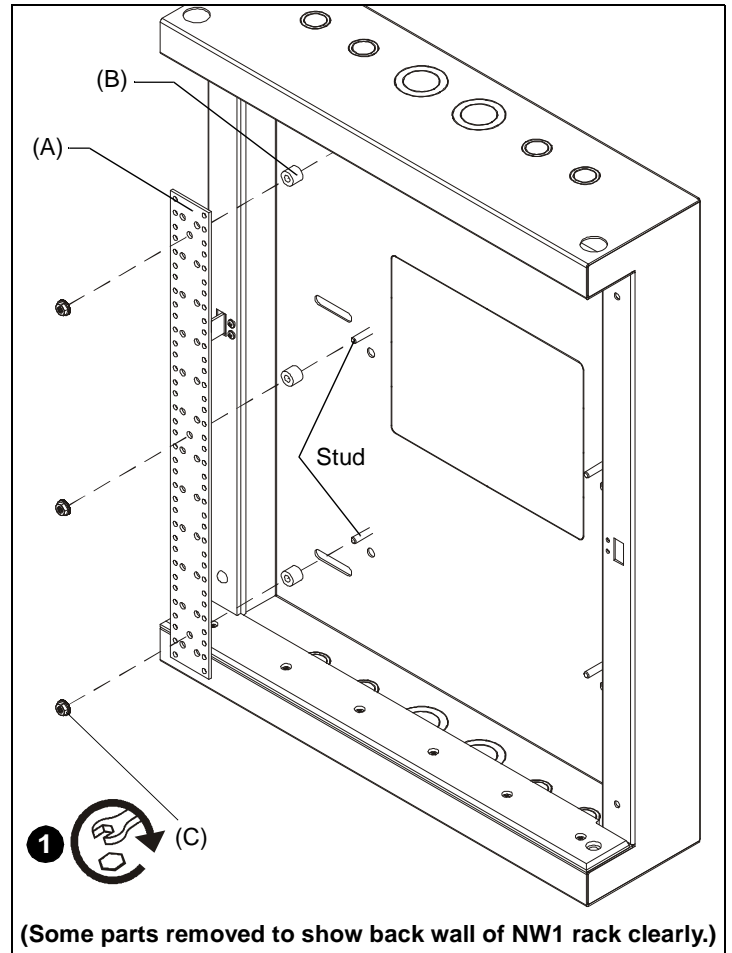

Figure 1
**NOTE:** The lacer strip (A) may be placed on the studs on either the left or right side of back inside wall.
1. Place nylon spacers (B) over studs on back inside wall of NW1 rack. (See Figure 1)
2. Place lacer strip (A) over nylon spacers (B).
3. Fasten lacer strip in place using 1/4-20 nuts (C) over studs on back inside wall of NW1 rack.